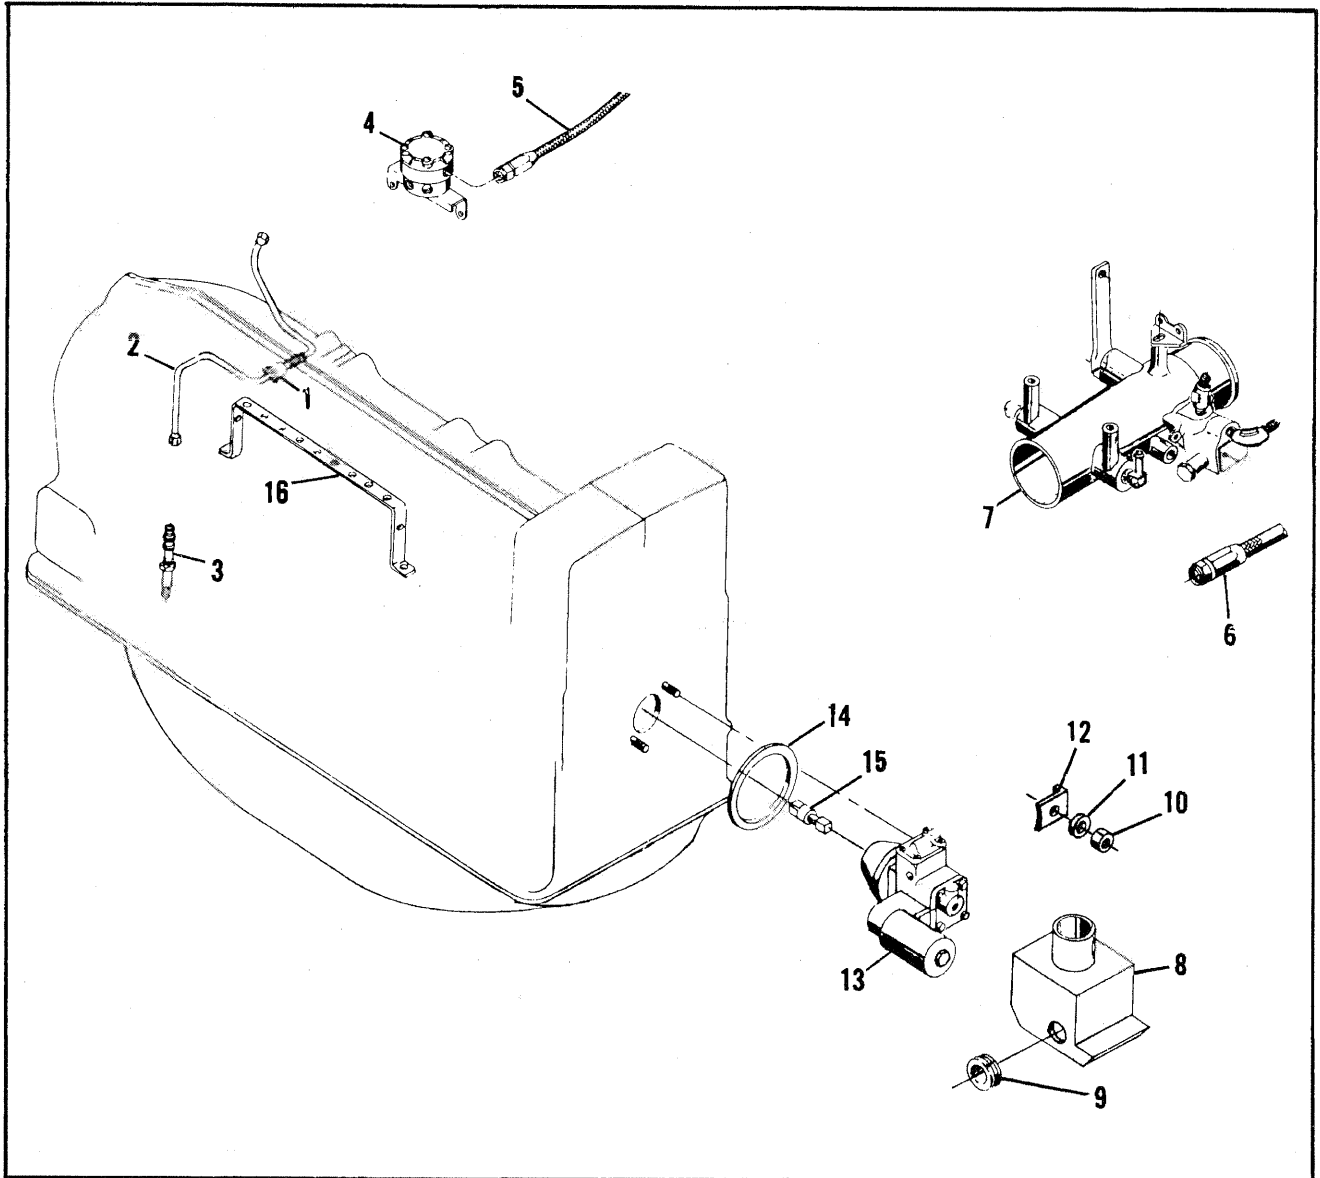

FIGURE 4-8. FUEL INJECTION SYSTEM, TS10-520-D.
**4-16. FUEL INJECTION SYSTEM, TSIO-520-D (See Figure 4-8).**
a. Disconnect six fuel discharge tubes (2) from fuel manifold valve (4) and nozzles (3). Compress spring legs of each clamp (1) and remove tubes and clamps. Remove nozzles (3) and store in a clean container.
b. Disconnect hose assembly (5) from manifold valve (4) and metering unit; disconnect hose assembly (6) from metering unit and fuel pump (14).
c. Bracket (8) should have been removed at the same time as the turbocharger (38, Figure 4-8). If not, do so at this time.
d. Remove shroud assembly (9) from fuel pump (14). Remove attaching parts (11,12,13) and lift fuel pump (14) off crankcase studs. Remove gasket (15) and coupling (16).